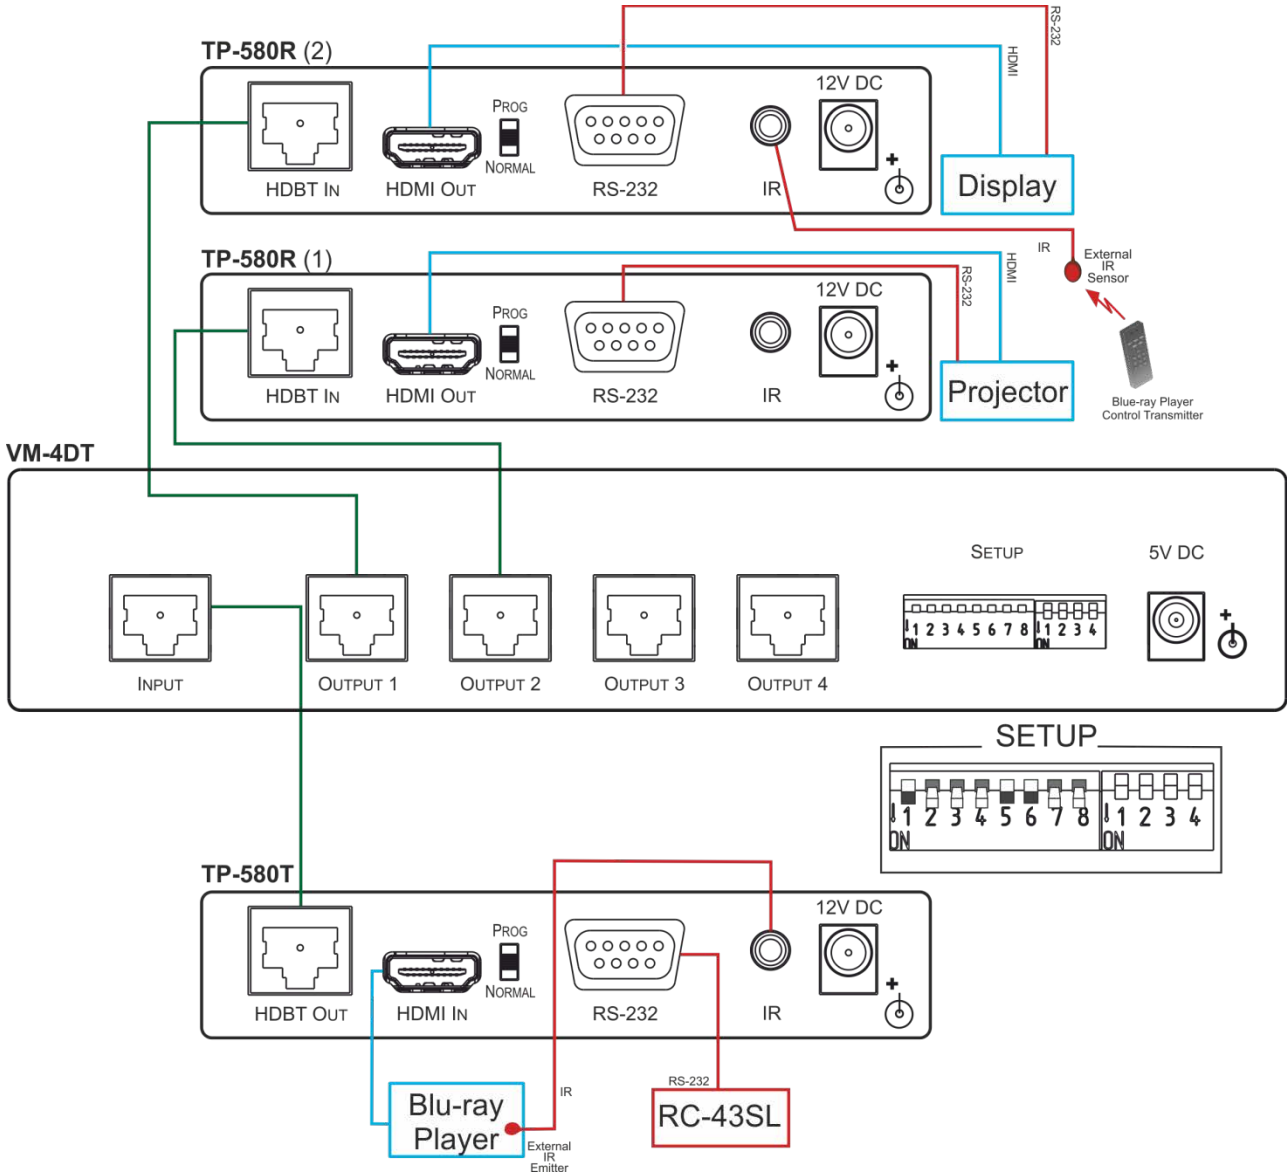

Figure 5: IR/RS-232 Routing Example
The example in Figure 5 shows the **VM-4DT** connected to two **TP-580R** devices. Two additional **TP-580R** devices can also be connected. The table below summarizes the types of connections:
In the example in Figure 5, an IR emitter cable is connected from **TP-580T** to the Blu-ray player and an IR sensor cable is connected to the **TP-580R** (2) receiver for receiving IR remote signals. This setup lets you remotely control the Blu-ray player via the **TP-580R** (2) receiver device, using the Blu-ray player IR remote control transmitter.
In the example in Figure 5, the Kramer **RC-43SL** control keypad is used to control AV devices that are connected to both **TP-580R** (1) and **TP-580R** (2). **RC-43SL** is connected to the **TP-580T** RS-232 port. The RS-232 ports on **TP-580R** (1) and **TP-580R** (2) are connected to a projector and display, respectively. This type of setup enables you to control the projector and display via the **RC-43SL**.